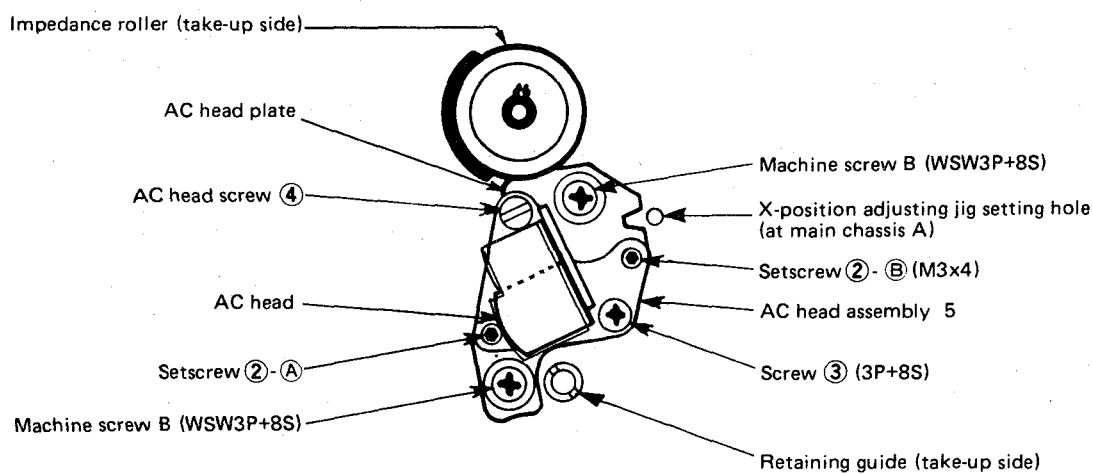

Figure 61.
If there is found, in the above check, something rather troublesome about the tape running, proceed with the following adjustment. See Fig. 61 and 62.
4. If the tape running is not normal, adjust the screws ②-A and ②-B shown in Fig. 61 while turning them slowly.
7. Setting the tracking knob at "prset" position, slowly loosen the two machine screws B (WSW 3P+8S) shown in Fig. 61 and set X-position adjusting jig in its retaining hole, then positionally adjust the AC head to attain the maximum envelope.